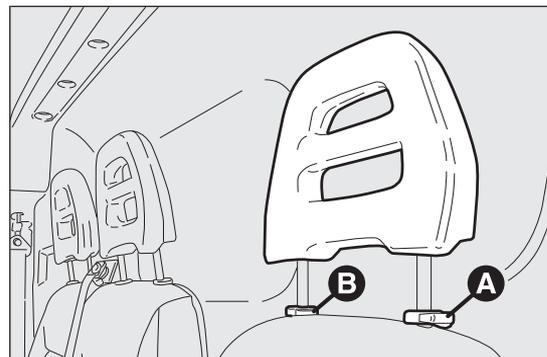

fig. 39
On certain versions the head restraints are adjustable in height and they lock automatically in the required position fig. 39.
- Downwards adjustment: press the button A fig. 39 and lower the head restraint.
To extract the front head restraints press buttons A and B fig. 39 at the side of the two supports simultaneously and release them upwards.